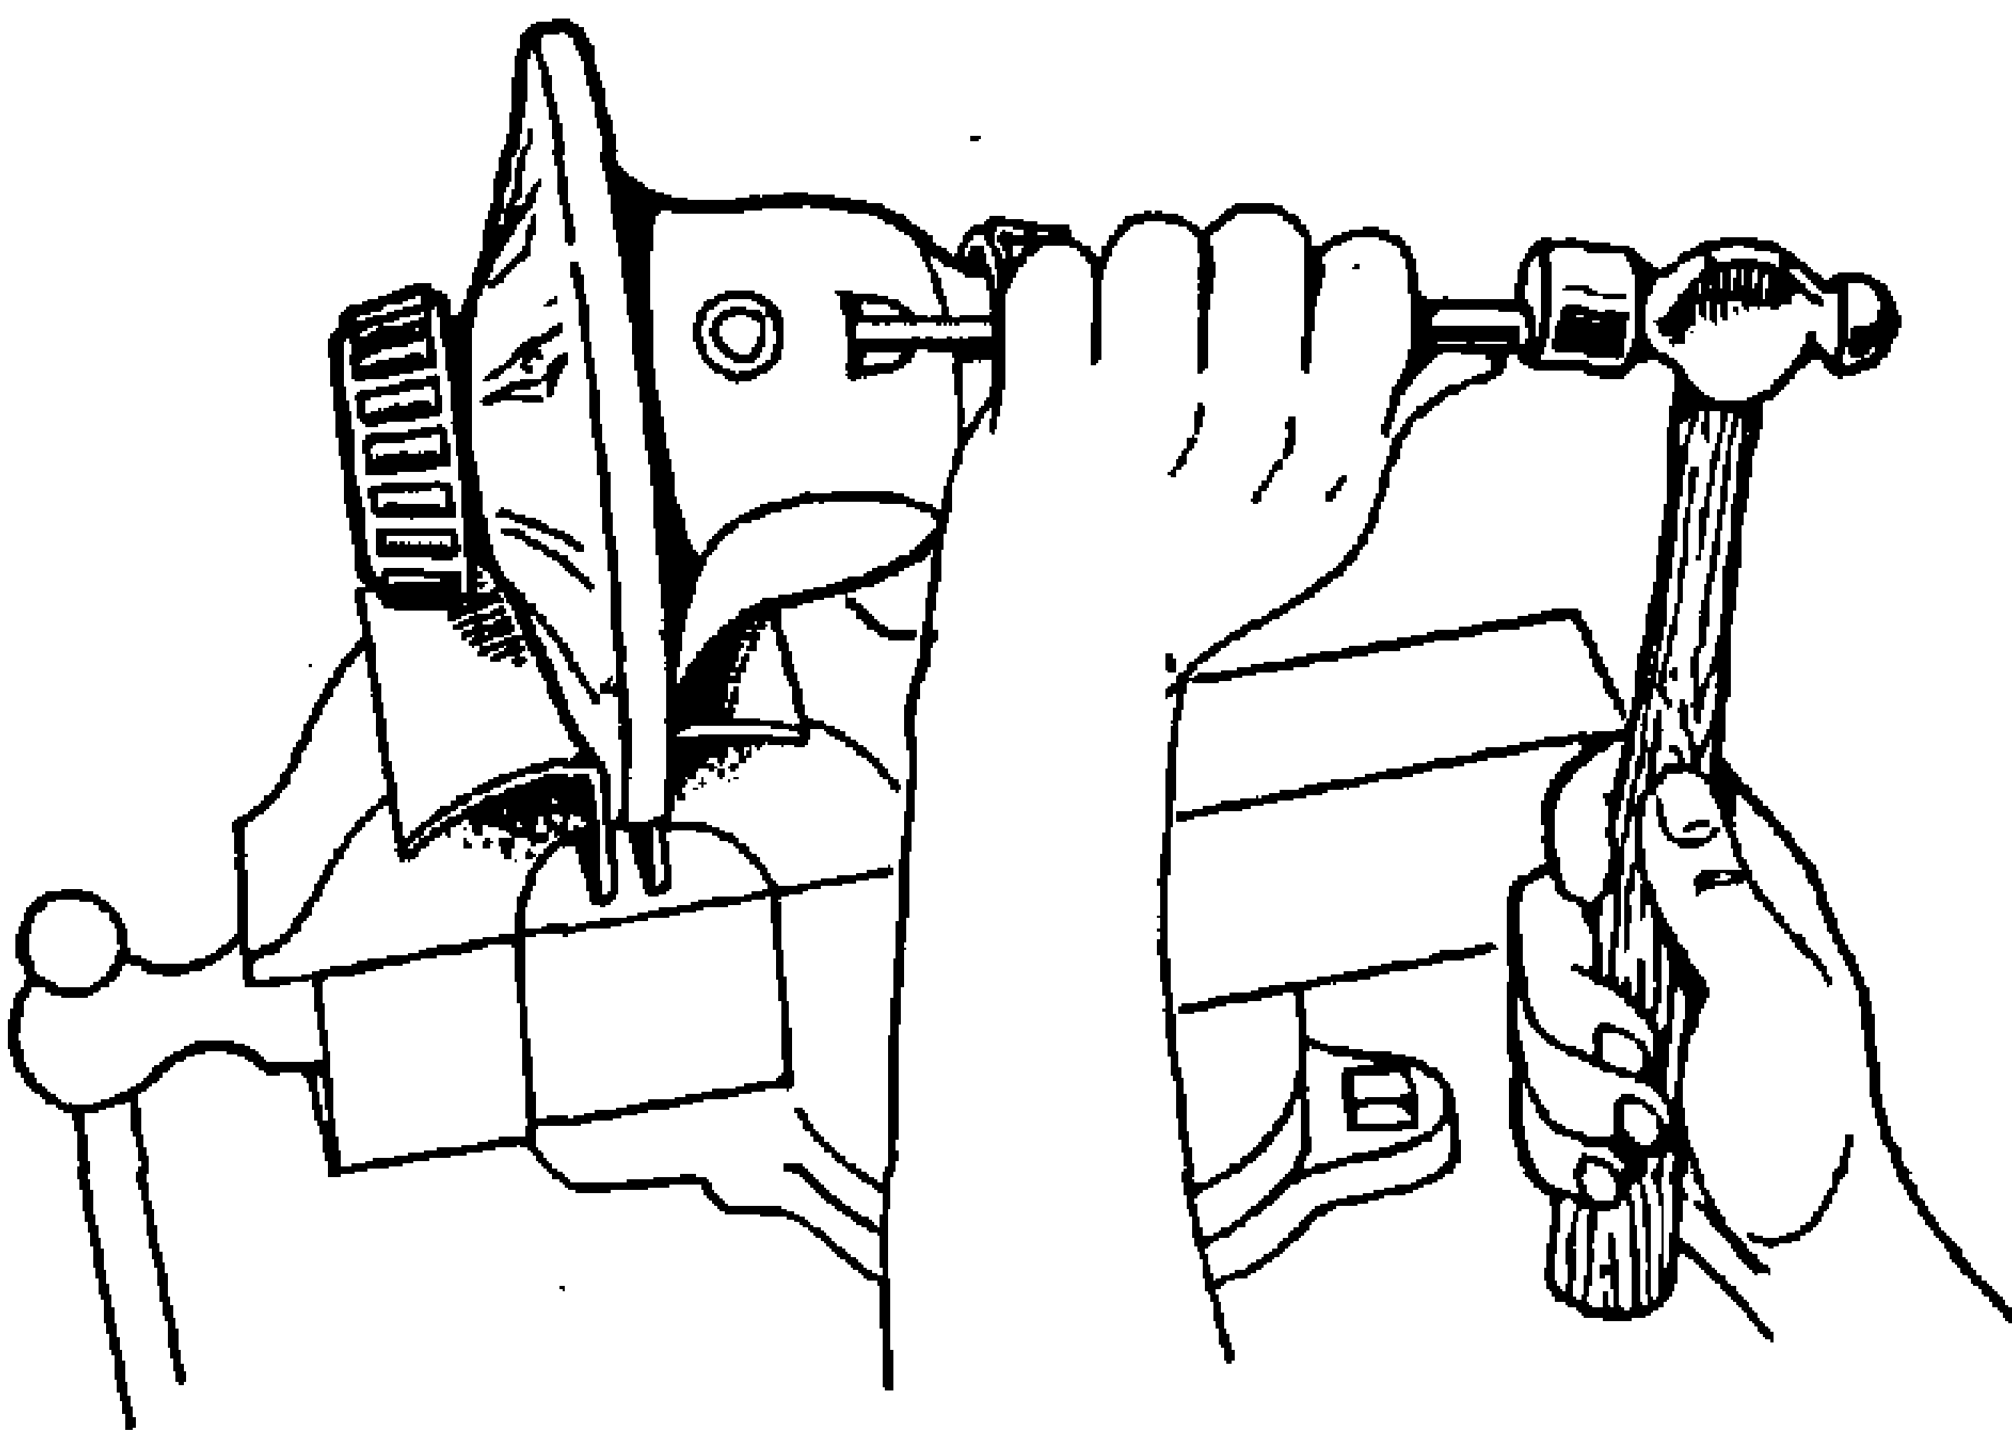

FIG. 3--REMOVING LOCK PIN
6. The differential shaft No. 13 is held in place by a lock pin No. 25, using a small punch, drive out the lock pin to allow the differential shaft to be removed, Fig. 3.